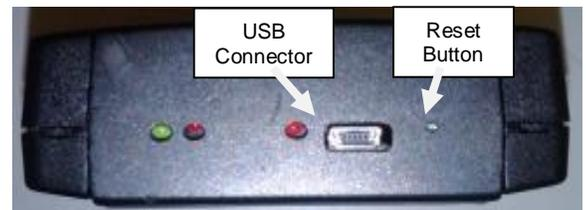

Fig. 7
2. Press and hold the recessed **Reset** button next to mini-USB connector on side of hub using a paper clip or similar tool, then connect the power source. See Figure 7.